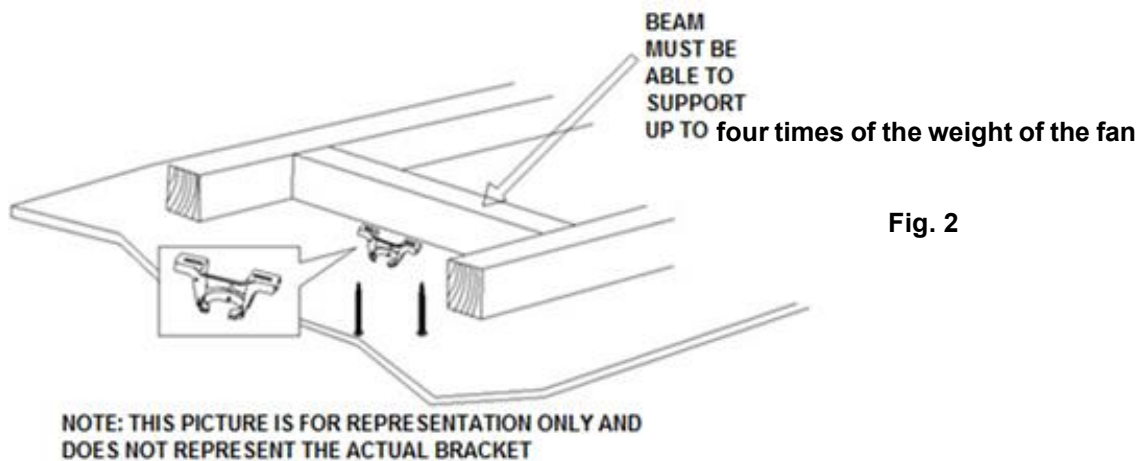

Fig. 2
- Install the hanging bracket to the ceiling joist or structure that is capable of carrying a load of at least four times of the weight of fan, with two long screws provided. Ensure at least 30mm of the screw is threaded into the support. (Fig. 2)